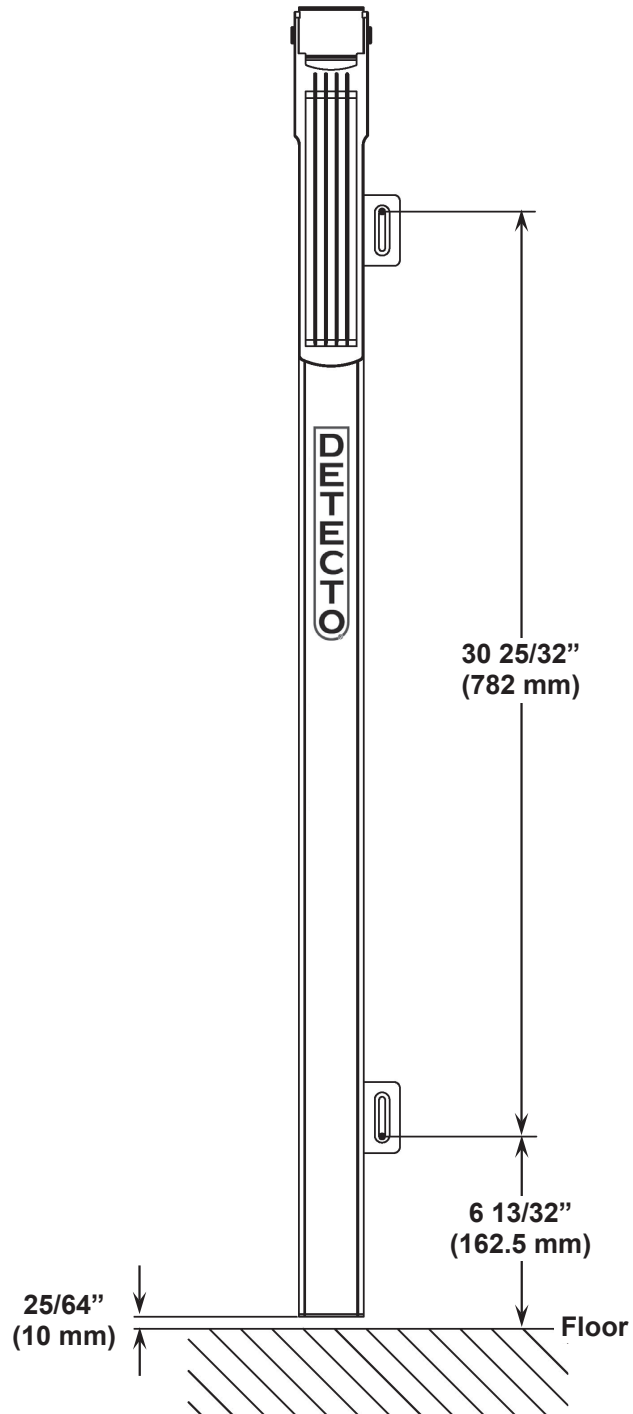

Figure No. 1
3. Referring to Figure No. 1 and using the height rod as a template, place the height rod against the wall and mark the holes to use to mount it. The lower mounting hole should be 6 13/32 inches (162.5 mm) from the floor, and the upper mounting hole should be 30 25/32 inches (782.0 mm) from the lower hole.
4. Remove the height rod and drill two (2) 13/64" (5 mm) holes in the wall for the mounting wall anchors.
6. Place the height rod against the wall and insert the two (2) M3.0x25 screws through the bracket and into the wall anchors.